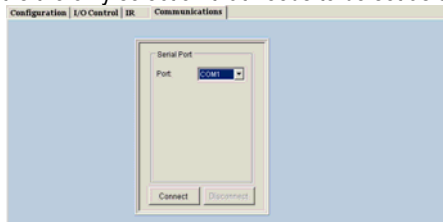

Figure 16 – Communications
- Since the HR-4P's serial port communicates at a fix baud rate of 19200, no parity, 1 stop bit, and 8 data bits, those drop-down selections will be disabled. The COM port is the only selection that needs to be set as shown in Figure 16.